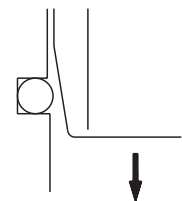

Fig. 4
- (5) If the seal ring is distorted after fitted, correct the distortion with a jig before assembly. (Fig. 4)